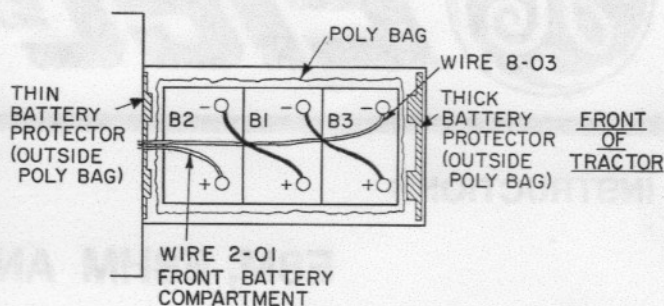

Figure 4. E8M and E8HM Front Compartment
4. Carefully set the batteries inside the bag as shown in Figure 4 observing polarity markings. Make sure the sides of the bag remain above the top surface of the batteries in equal amounts. (It may help to tape the upper edges of the bag to the tractor sides temporarily to permit easy insertion of the batteries.)
5. Place a thin vacuum-formed battery protector between the poly bag and the rear wall of the compartment and a thick protector in similar fashion at the front of the compartment. Position the protectors so their corrugations will face the battery walls. (See Figure 4.)
6. Connect the battery cables in accordance with Figure 4. Observe clamp polarity markings. Coat the terminals after connections are made with a thin film of Battery Terminal Protective Grease, AP31. Make sure all surfaces are coated!